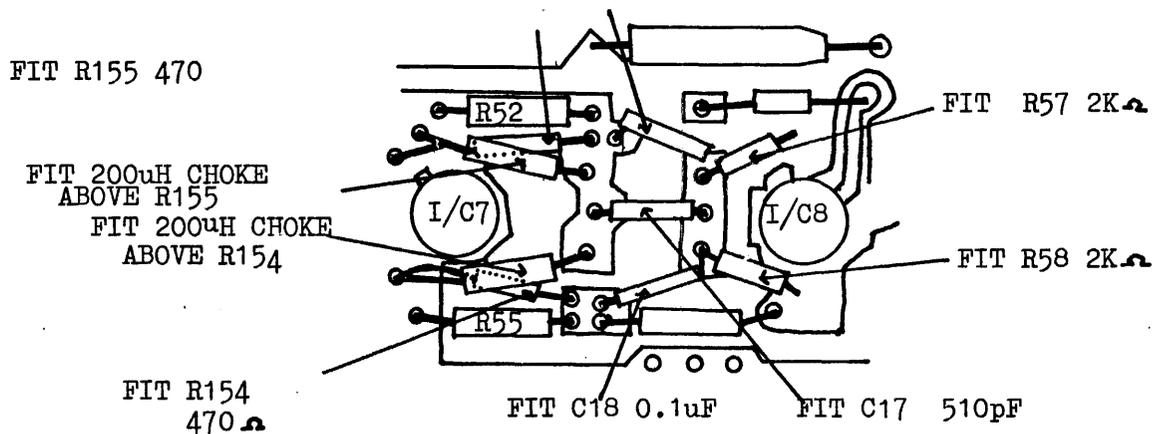

FIGURE 6.
13. Fit two $470\ \Omega$ resistors P/N 1876 5008 in the R53, R54 positions as shown in Figure 6.